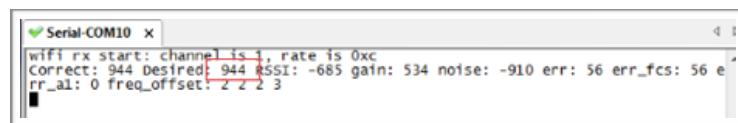

Figure 4-14. Printed Logs of Packet Receive Operation Power Consumption Test #2
- After execution of the command, UART will output logs as Figure 4-14 shows. ESP8266 receives 94.4% of the data sent in this case.